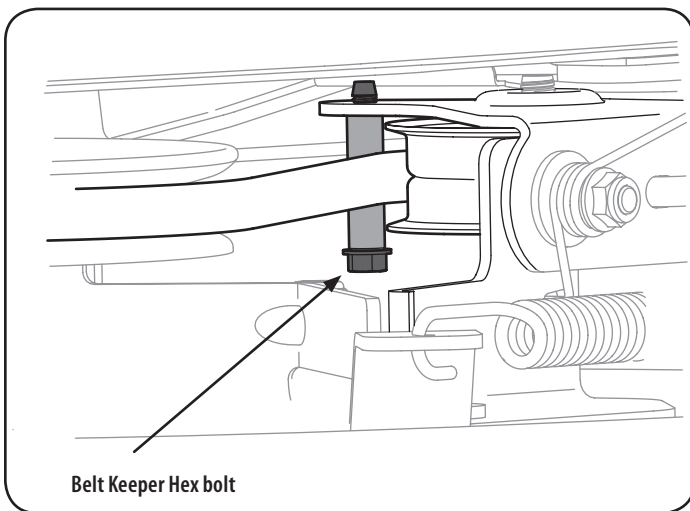

Figure 20
6. Remove the belt keeping spacer by removing the hex bolt that secures it. See "Figure 20".